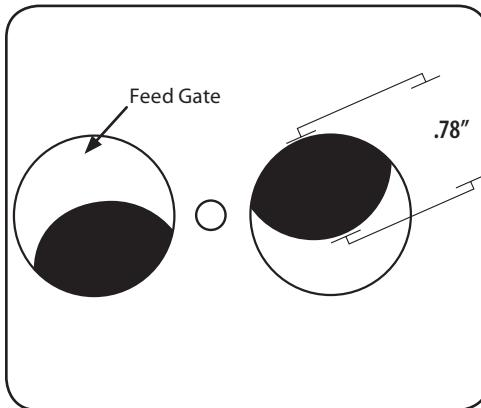

Figure 1-14
NOTE: Maximum tractor speed is approximately 5.2 mph. Any speeds above 5.2 mph are labelled N/A in the following charts. In such cases, the spreader MUST be used in the half open gate setting. See Figure 1-14.
6. If your calculations result in a speed faster than the mower is capable of driving, divide your drive speed in half and use a half open gate setting. See Figure 1-14.